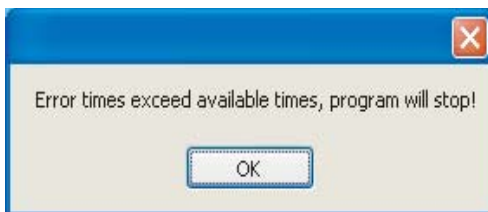

Fig. 4-10
7) In case the password error time exceed 6 times (i.e. the 7th times password error), the window show as Fig.4-10, and then click OK, it will exit the program.